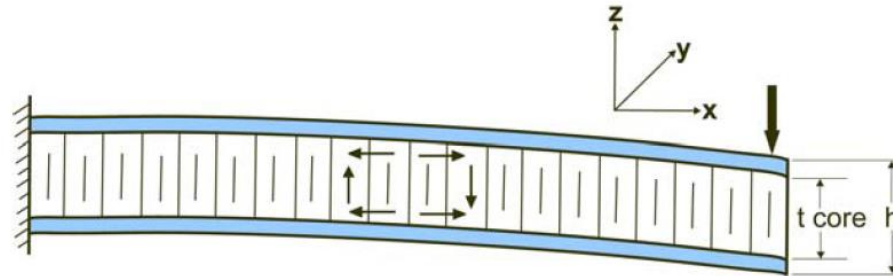

FIGURE 9: Core Shear Stress
- A pictorial example of Core Shear Stress is provided in Figure 9.